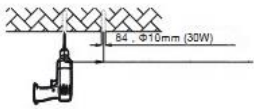

Figure 1
1. Make marks on the ceiling or walls, then drill holes on the marks (Figure 1).